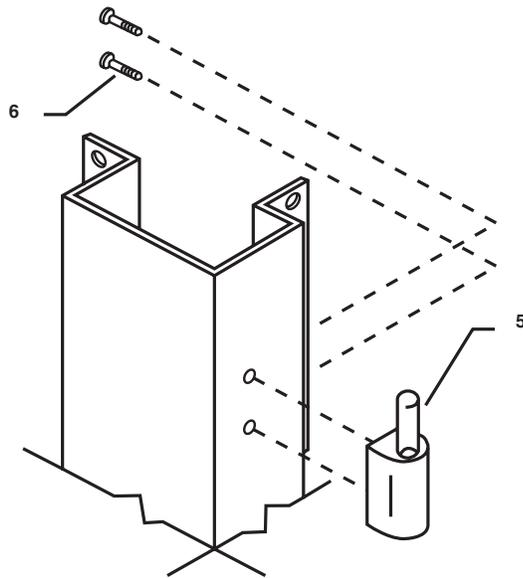

Figure 3-4. Installing Hinges on the Corner Post.
- B. Attach the hinges to the corner post using item 6 as shown in Figure 3-4.